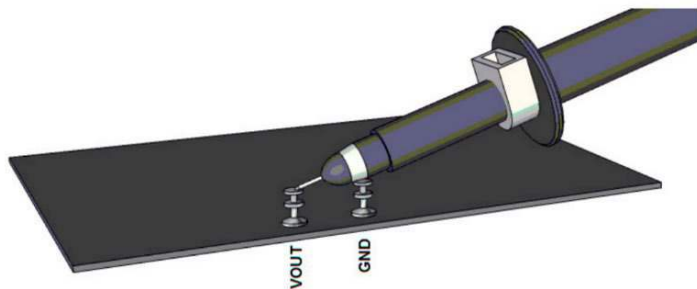
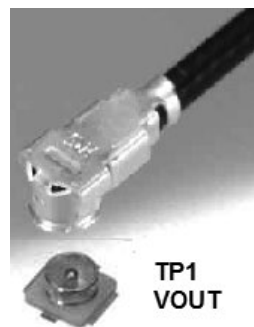

Figure 3. Technique for Measuring Output Ripple and Step Response with a Scope Probe
Figure 4. Technique for Measuring Output Ripple and Step Response with a Low Inductance Connector (Not Supplied)
- Set power supply PS1 current limit to 10A. Set the electronic load LD1 to CC mode and 0A current. Slowly increase PS1 to 1V. If PS1 output current reads less than 20mA, increase PS1 to 3.3V. Verify that VM1 reads 3.3V and VM2 reads around 764mV. Check VM1, VM2, VM3, PS1 output current and LD1 input current. Connect an oscilloscope voltage probe as shown in Figure 3 or Figure 4. Set channel to AC-coupled, voltage scale to 20mV and time base to 10μs. Check VOUT ripple voltage. Verify that PGOOD voltage is above 3V.